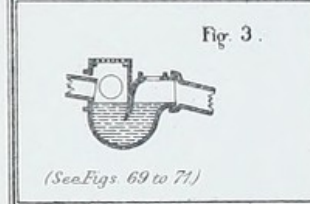

Fig. 3.
- "Drain-interceptor." See Fig. 3.